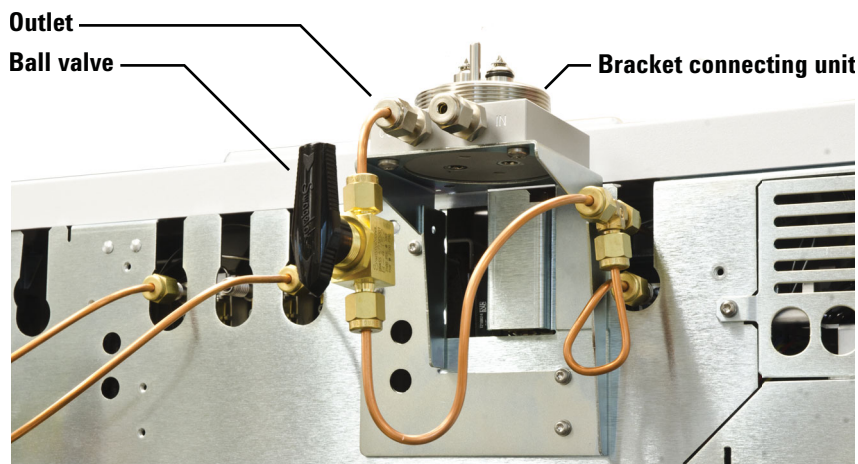

Figure 23. Ball valve installed following the outlet connection on the bracket connecting unit
- 5 If you have the Gas Clean Carrier Gas Kit for 7890 (CP17988), install a ball valve immediately following the outlet connection on the bracket connecting unit as shown in **Figure 23**.